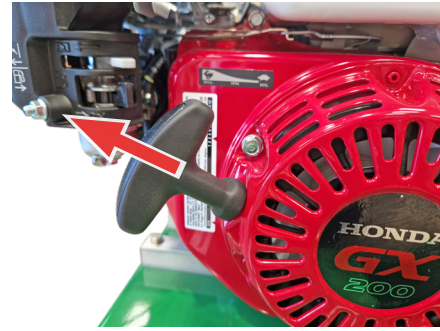

Fig.7G - Pull starter grip handle.
7. Grasp the starter grip handle and extend until the slack is removed. At this point, pull with a steady and fluid motion (Fig.7G). The engine will start.